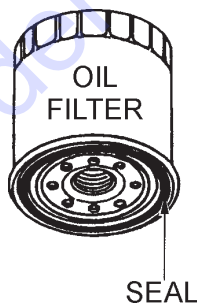

Figure 24. Oil Filter
- Replace the engine oil filter (Figure 24) every oil change or 100 hours. Refer to your engine manual for specific details to perform this operation.